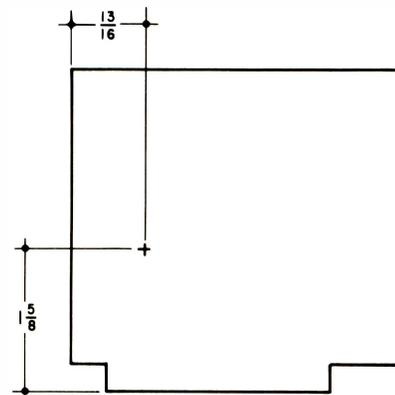

Figure 3. Feedthru Location - A14 Board
12. Drill ( $7/32''$ ) (5.5 mm.) hole in location shown in Figure 3. As in step 4 above, enlarge hole in steps to final size.